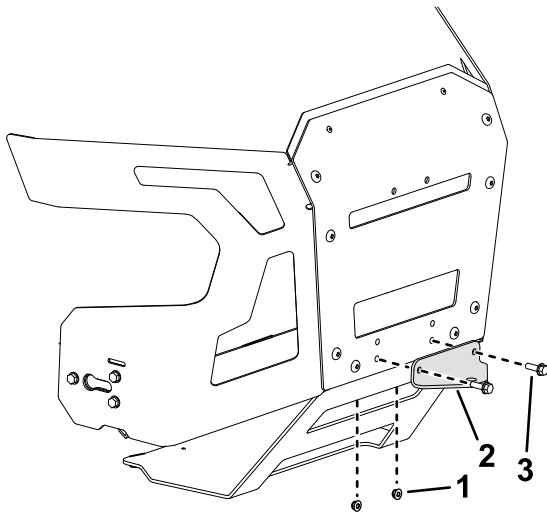

Figure 12
1. Remove the existing 2 bolts, 2 nuts, and hitch bracket from the bottom of the rear guard (Figure 12).